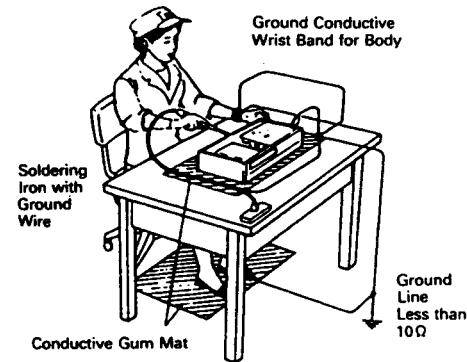

Fig. 5
1. Remove the CD mechanism assembly by refering to the "EXPLODED VIEW II" on page 24 (See Fig. 5).